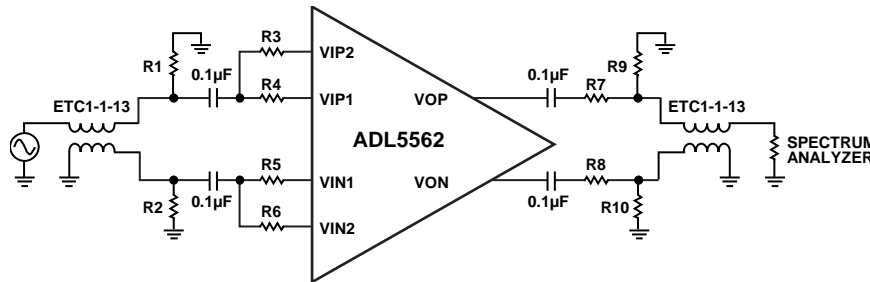

Figure 43. General Purpose Characterization Circuit
**Table 10. Gain Setting and Input Termination Components for Figure 43**
**Table 11. Output Matching Network for Figure 43**